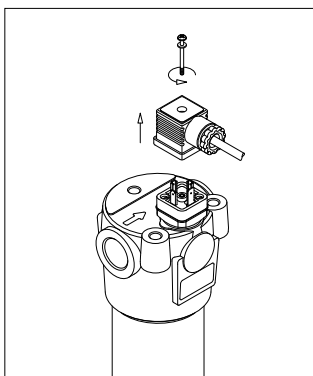

fig. 9
- (Fig. 9) Remove the connector of the differential indicator by unfastening the central screw (only for electrical indicators).
- For the mounting/dismounting of the indicator, please refer to the paragraph "Clogging indicator replacement" above (Fig. 9÷12)